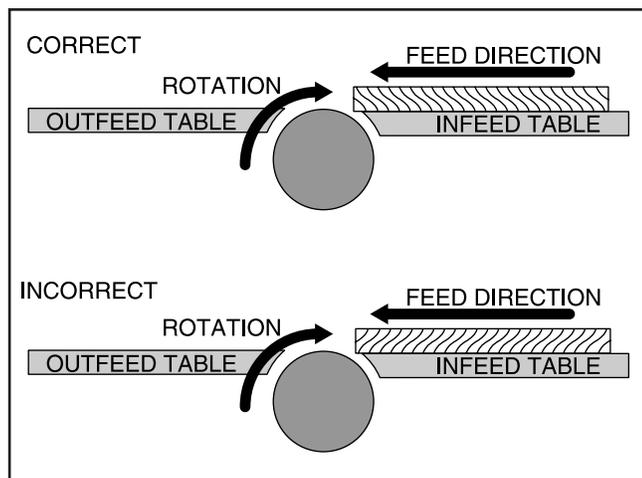

Figure 40. Correct and incorrect grain alignment to cutterhead.
- **Jointing and surface planing with the grain produces a better finish and is safer for the operator.** Cutting with the grain is described as feeding the stock on the jointer so the grain points down and toward you as viewed on the edge of the stock (**Figure 40**).